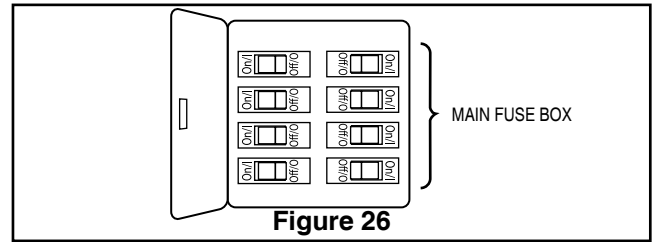

Figure 26
- ☐ 1. Restore electrical power to the outlet box by turning the electricity on at the main fuse box. (Figure 26)